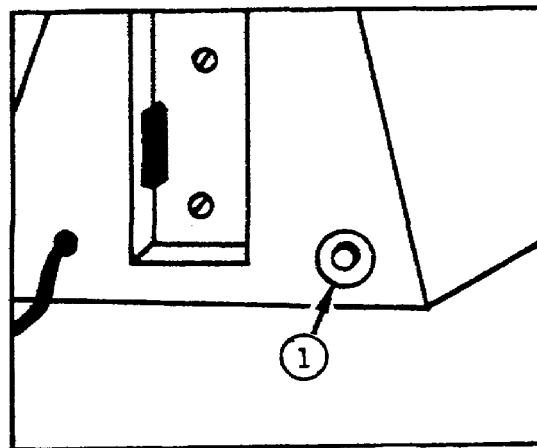

Figure 1-13. Fuse Holder.
j. Fuse Holder (fig 1-13). The Fuse Holder 1 - is located on back side of the REPRONAR base. It uses a 1.5 amp slow-blow fuse. If the unit is plugged into a live electrical outlet but does not operate, check this fuse first.